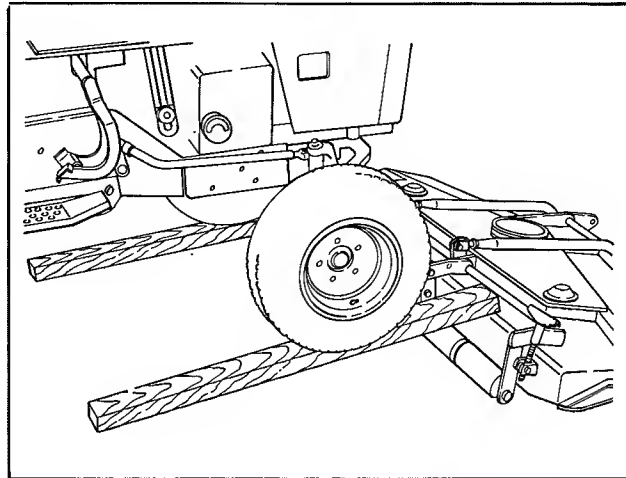

Figure 2. Drive Tractor Over Mower
- a. Place two planks (figure 2) on mower to serve as ramps. The planks must be slightly shorter than the distance between front and rear wheels of tractor.